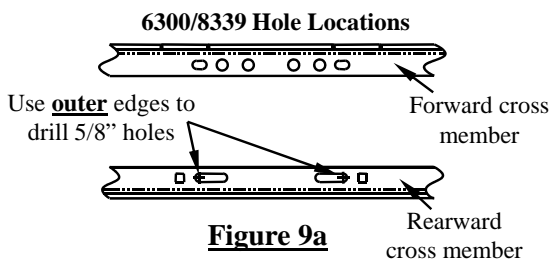

Figure 9a
- 11a. **For 6300 & 8339** use the **outer** edges of the long slots in the rearward cross member as a template to drill 5/8" diameter holes through the truck bed as shown in Figure 9a. Due to the fuel tank, not all holes can be drilled from under the vehicle, but should be done later from inside the bed.